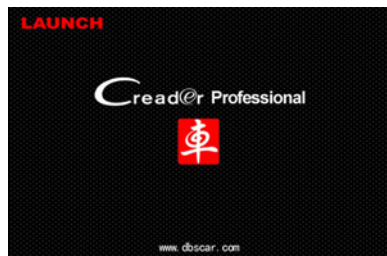
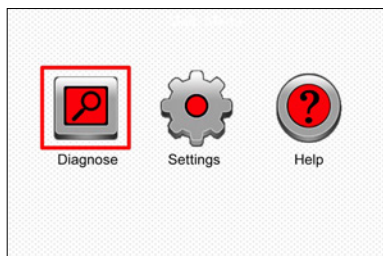

Figure 4-2
Figure 4-3
5. After finishing, the system will start initializing. After initialization, the system will enter the main menu interface. See Figure 4-2 & Figure 4-3.